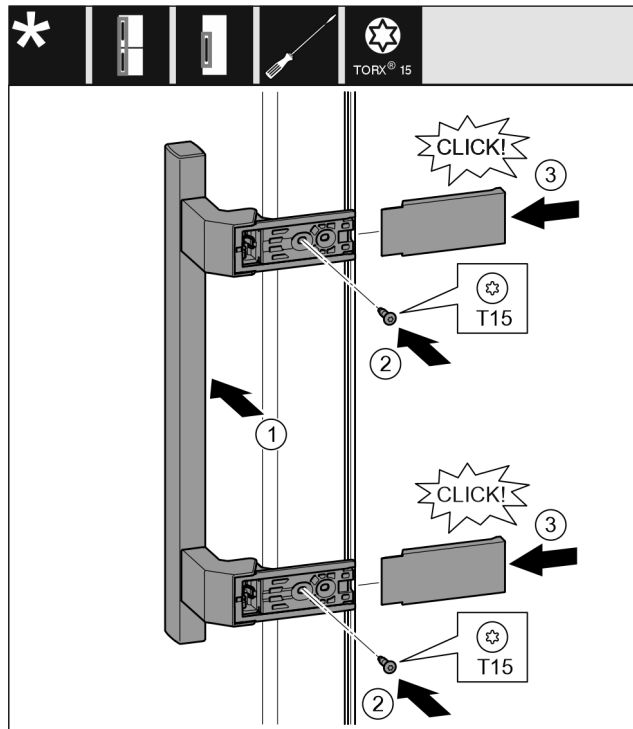

Fig. 21
- ▶ Position the handle on the opposite side. *Fig. 21 (1)*
- ▶ Tighten the screws using the T15 screwdriver. *Fig. 21 (2)*
- ▶ Position the covers on the side and push them on. *Fig. 21 (3)*